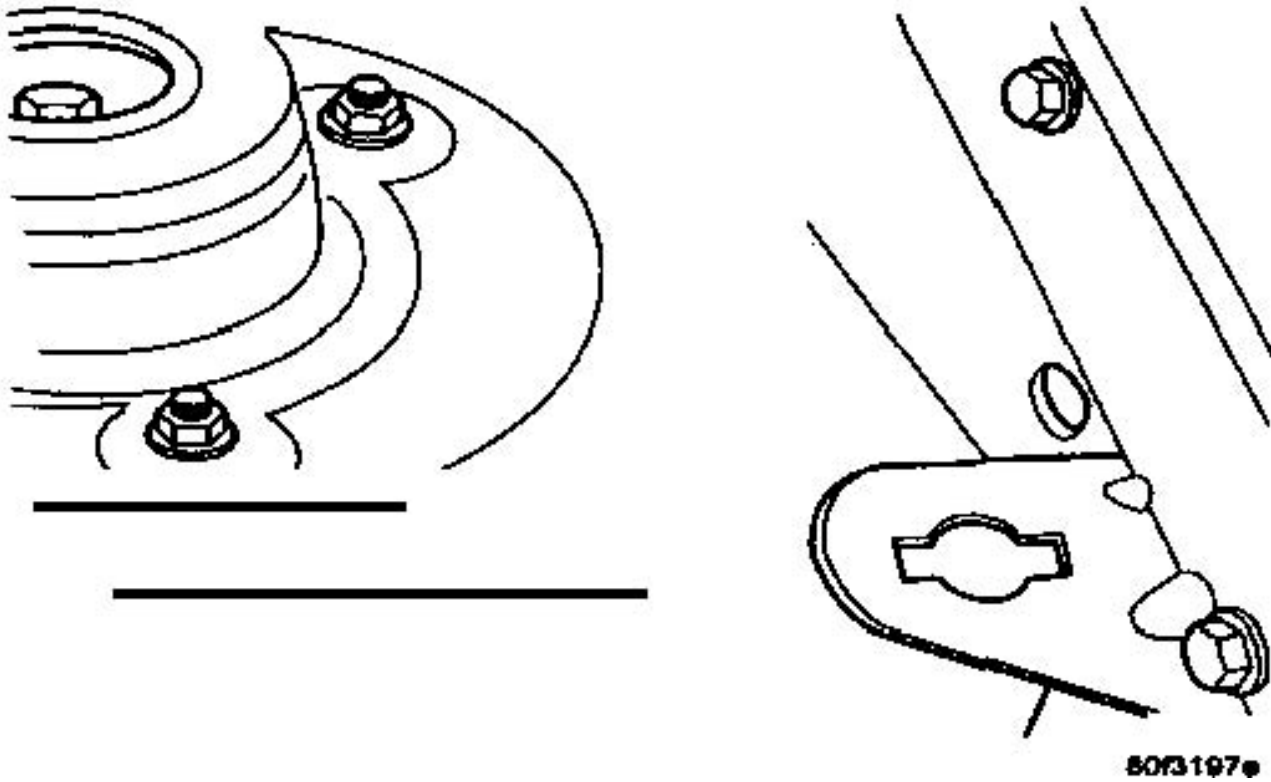

Figure 1. Switch mount with switch removed
- B8. Remove hood alarm switch if equipped (**Fig. 1**).